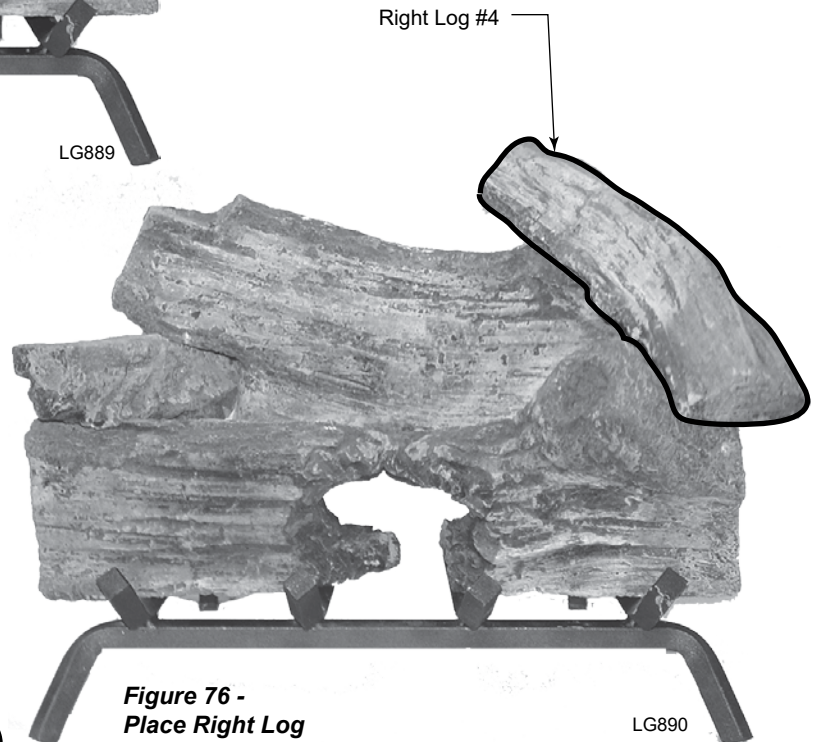

**Figure 74 -
4. Place front end of Side Support Log #2 on top left of Log #1a. Rest other end of Log #2 on rear grate bar. *Figure 74*